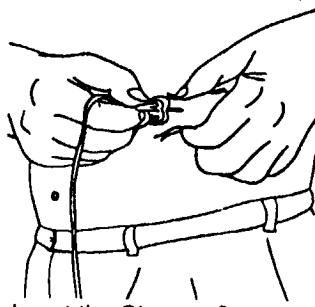

FIGURE 8: Insert the Glucose Sensor
- Step 7. Locate the insertion site which has previously been wiped with 70% alcohol. With one hand, stabilize the insertion site by pinching up a large area of skin between the thumb and forefinger. Do not touch either the Adhesive Pad or the sterile needle. Make sure the Needle Hub is pushed all the way forward against the Sensor Assembly. Now hold the Glucose Sensor by the Needle Hub. Slide the needle into the subcutaneous tissue at a 45 degree angle to the skin surface, until the Adhesive Pad touches the surface of the skin. Release the skin fold (Figure 8).